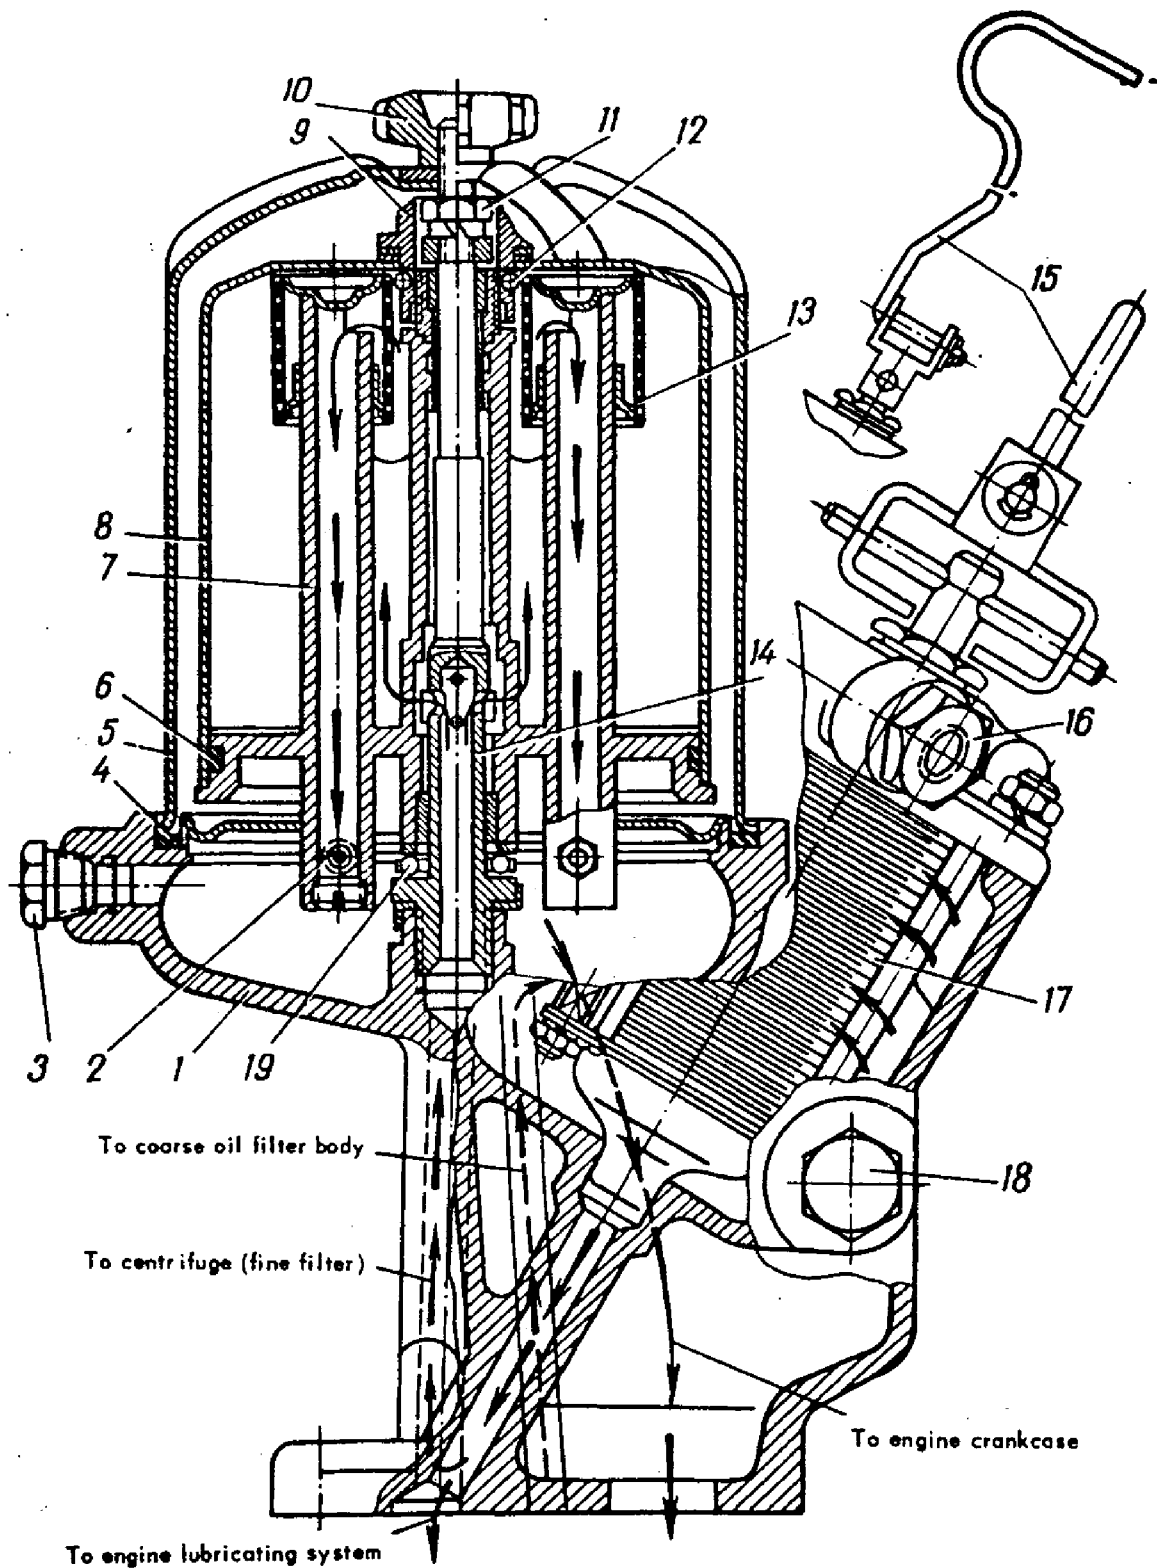

FIG.8. 3WJ-131 ENGINE OIL FILTER
8. On the engines with a partial-flow centrifugal oil filter, turn the coarse oil filter handle three or four turns by extension grip 15 (Fig.8).